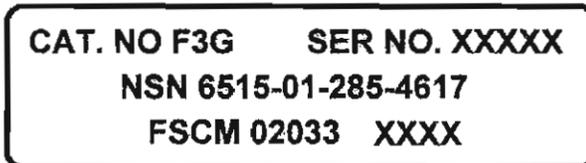

Figure 1-14. Manufacturer data plate (model F3). Figure 1-15. Manufacturer data plate (model F3G).
(1) The fiberoptic bronchoscope manufacturer data plate for each model (located on the proximal housing) is depicted in figure 1-14 and figure 1-15.